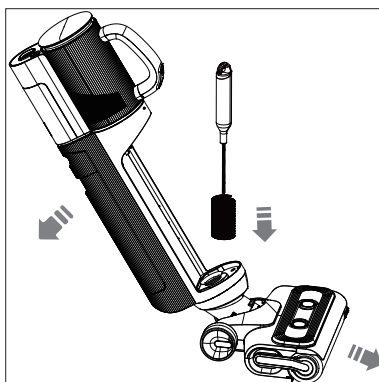

Fig. 20 – Cleaning the lines
- ▶ Clean the dirty water pipe to the cleaning foot using the cleaning brush supplied (see Fig. 20).